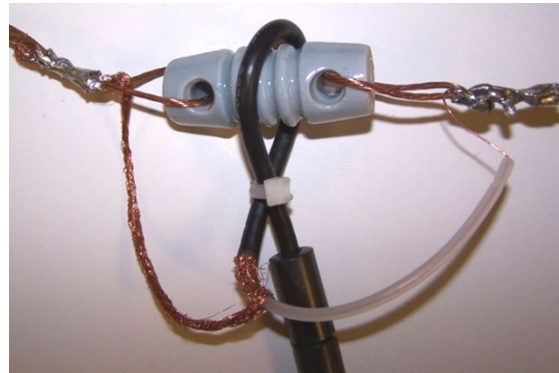

Figure 5.5 – Install the ferrite toroid cores.
- For each dipole, slide 3 ferrite toroid cores up the cable to the very top of the coax near the dipole. Secure them all in a row with tape and a tie wrap. Be sure this is secure because they may slide down the coax after the antenna is up (Figure 5.5).